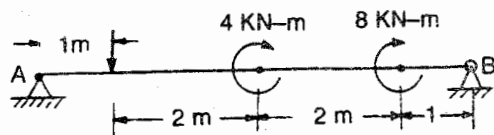

Fig. 5.66
16. A beam of span 6 metres is loaded as shown in figure 5.66. Draw the *B.M.* and *S.F.* diagrams.